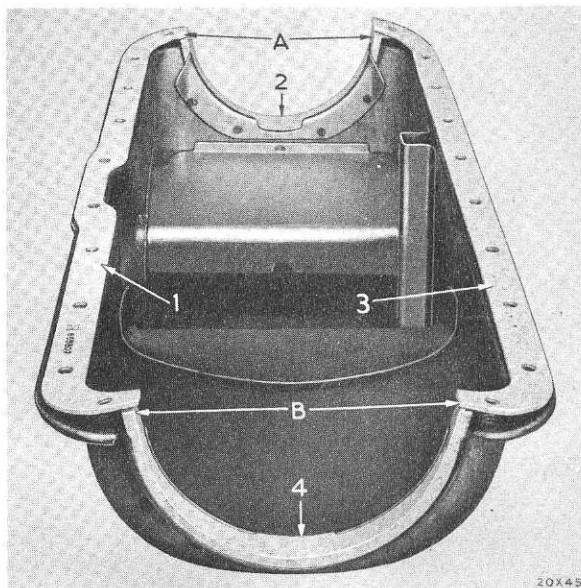

Fig. 29—Oil Pan Gaskets
- (1) Drain the engine oil, install the drain plug and tighten securely.
- (2) Remove the clutch housing pan to prevent damaging the oil pan gaskets on the clutch housing pan dust seal.
- (3) Remove the oil level indicator and the oil pan.
- (4) Before installing the oil pan, clean it thoroughly and install new gaskets. The lips of the end gaskets (A and B, Fig. 29) should protrude $\frac{1}{8}$ to $\frac{1}{4}$ inch above the oil pan. These ends must not be cut off. They should be allowed to protrude while the pan is being installed. The pan will compress them into place when the pan screws are tightened.